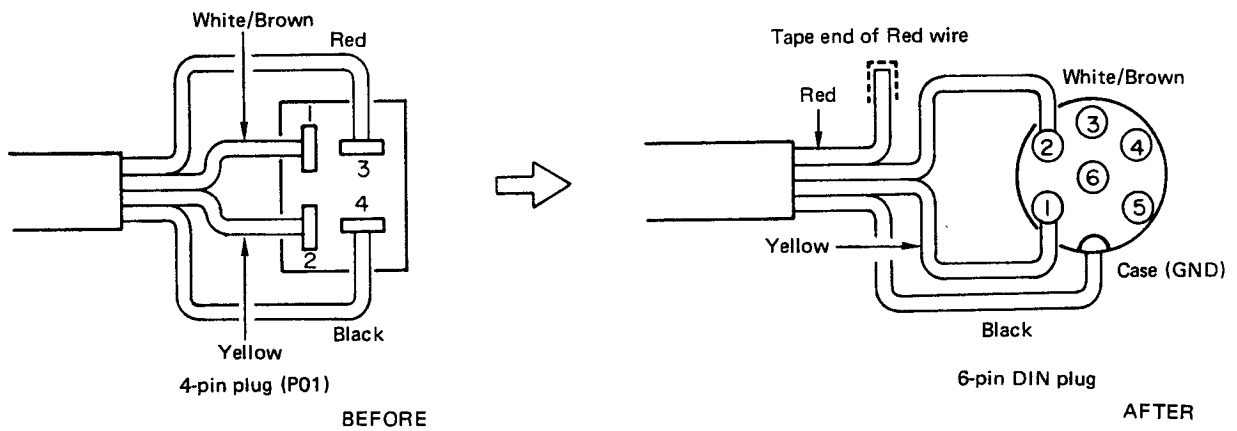

Figure 5
7. Replace the 4-pin connector (P01) at the end of the connection cable on the FTV-707 with the 6-pin DIN plug as shown in Figure 5 and described below: